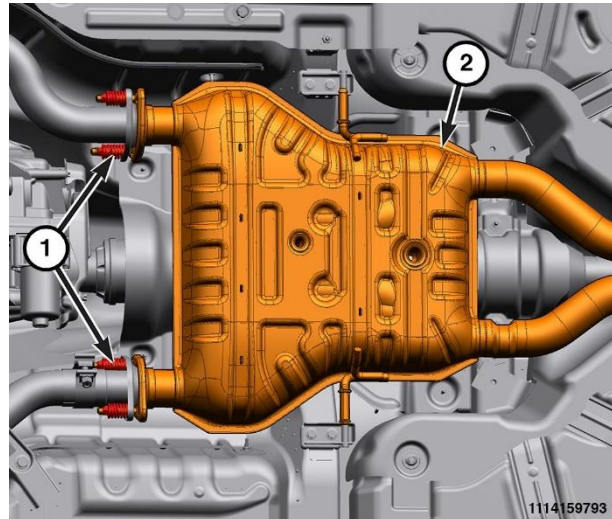

Figure 9 – Muffler/Tailpipe Assembly
13. **All vehicles:** Remove the four spring nuts (1) then remove the muffler/tailpipe (2) assembly from vehicle (Figure 9).